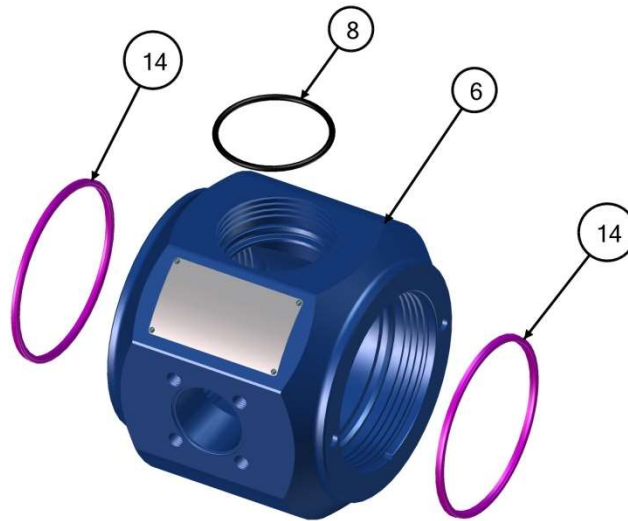

FIGURE 11
- 2) Install the entry plug primary o-ring (8) (**FIGURE 11**).
- 3) Install the seals (14) into the grooves in the bore of the body or tailpiece. For 2" and 3" valves only, polypak sealing lips must face towards the center of the body.